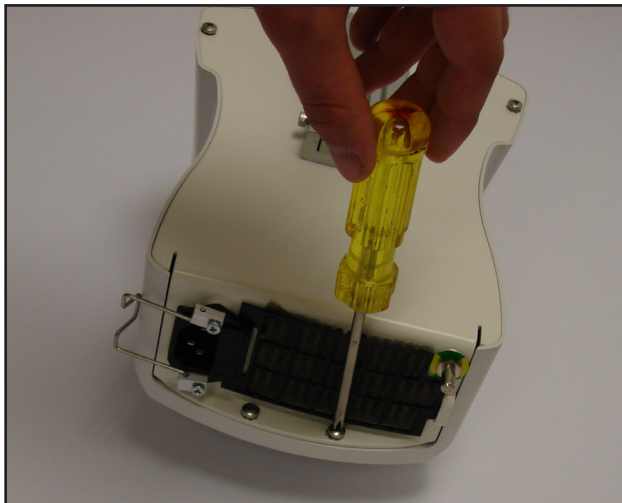

Figure 11-7
4. Use a Philips screwdriver to remove the back plate screws (Refer to Figure 11-7).